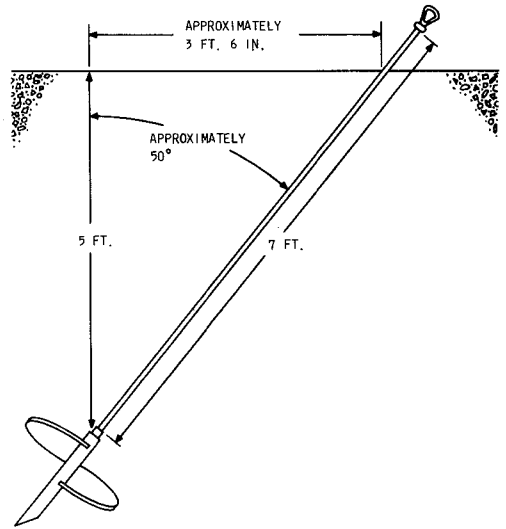

Fig. 2—Anchor and Rod Angled to Provide 5-Foot Vertical Penetration
2.03 The standard rod used with the C guy anchor is 7 feet long. This length is adequate to allow for a soil penetration of approximately 5 feet, measured vertically (Fig. 2). A 3-1/2 foot extension rod and coupling is available when deeper soil penetration is required. The rod is equipped with either double or triple eye nuts. Either eye nut may be used for single guying applications.